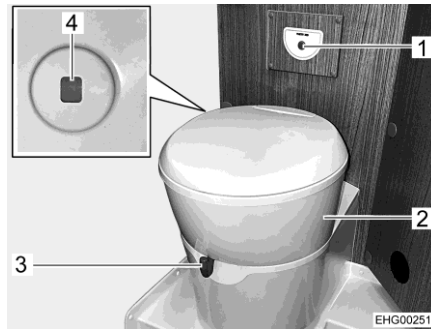

Fig. 72 Toilet
The toilet bowl can be rotated into the required position. In order to do this, grab the toilet's upper part (Fig. 72,2) with both hands and rotate it.
The operating unit with the flush button (Fig. 72,1) is installed near to the toilet bowl.
The colour of the level indicator (Fig. 72,4) changes from green to red whenever the sewage tank has to be emptied.
- Before flushing open the sliding trap of the toilet. To do this, push the slide lever (Fig. 72,3) in an anticlockwise direction.
- For flushing, press the blue flush button (Fig. 72,1).